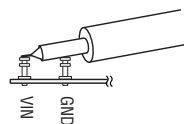

Figure 2. Measuring Input or Output Ripple
**NOTE:** When measuring the input or output voltage ripple, care must be taken to avoid a long ground lead on the oscilloscope probe. Measure the output (or input) voltage ripple by touching the probe tip and probe ground directly across the +Vout and -Vout (or +Vin and -Vin) terminals. See Figure 2 for proper scope probe technique.